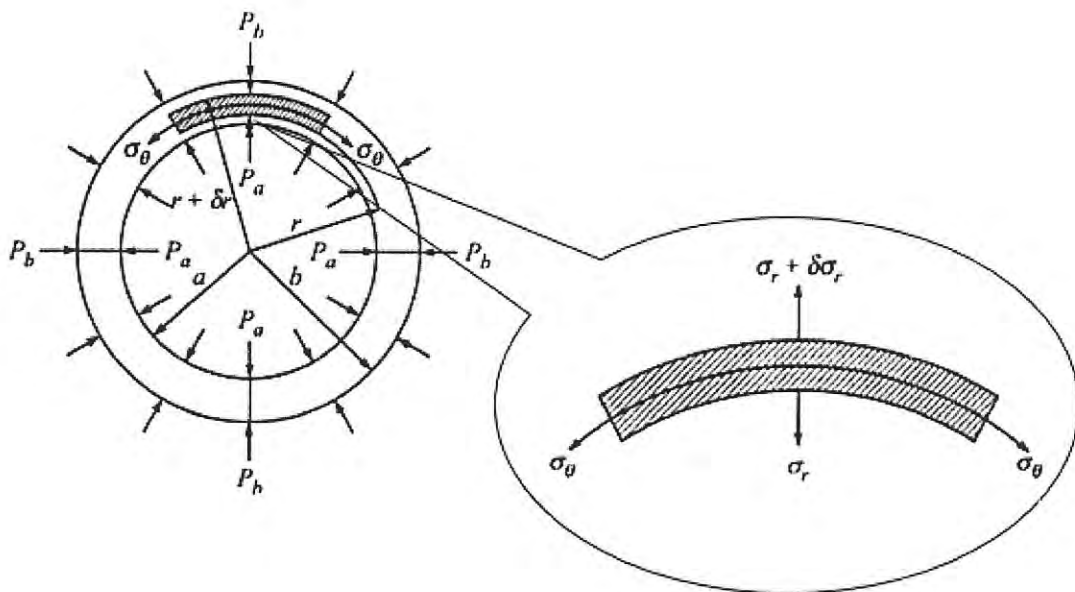

Figure Q4
- Q4** (a) Based on **Figure Q4**, derive and prove that the Hoop Stress, σ_H and the Radial Stress, σ_R can be expressed as follow: